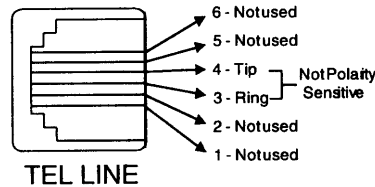

Figure 5-8: Station RJ11 Connections
3. Use a modular telephone cord (minimum 2-conductor) to connect the module to the phone system. The center two conductors are Tip and Ring and are not polarity sensitive (see Figure 5-8 below). Plug one end of the cord into the PBX or CO modular jack and the other end in to the TEL LINE jack on the module.